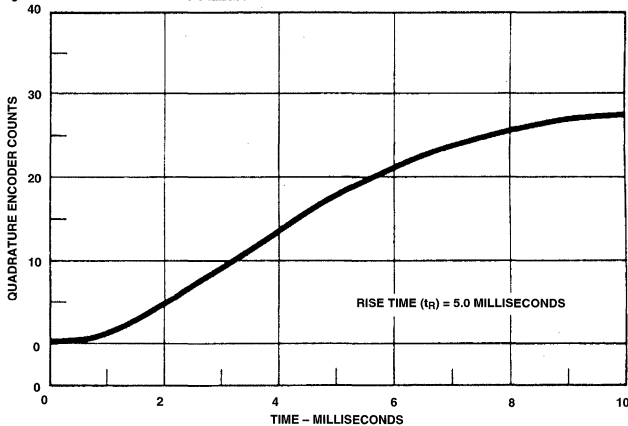

Figure 28. Rise Time of the Closed Loop System to a Step Input of 25 Quadrature Encoder Counts.
Figure 28 shows the actual risetime of the closed loop system to a step input of 25 quadrature counts. Note that the rise time is defined as the time required for the output to go from 10% to 90% of its final value. Since this system has some overshoot, equation (59) applies. The risetime (t_R) should therefore be:
The risetime measured from figure 28 is: